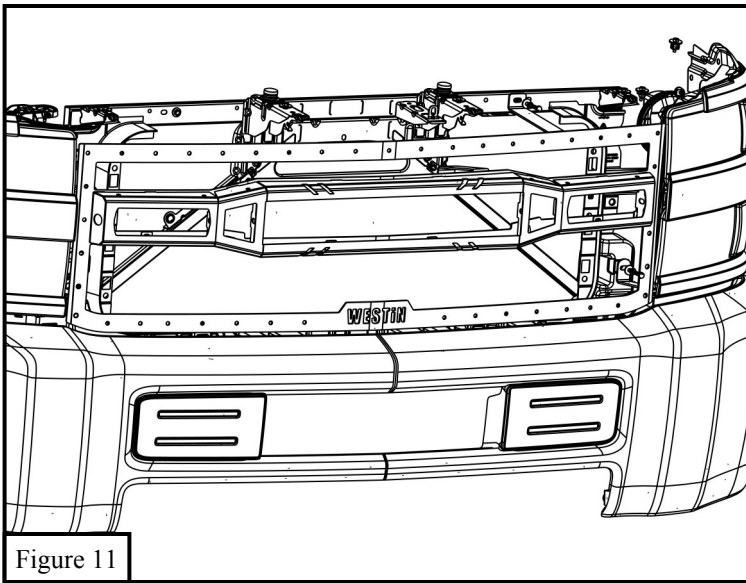

Figure 11
11. After Installing LED Grille, Reinstall previously trimmed OE Top Grille Lip with factory hardware. Refer to **Figure 11 & 12.**